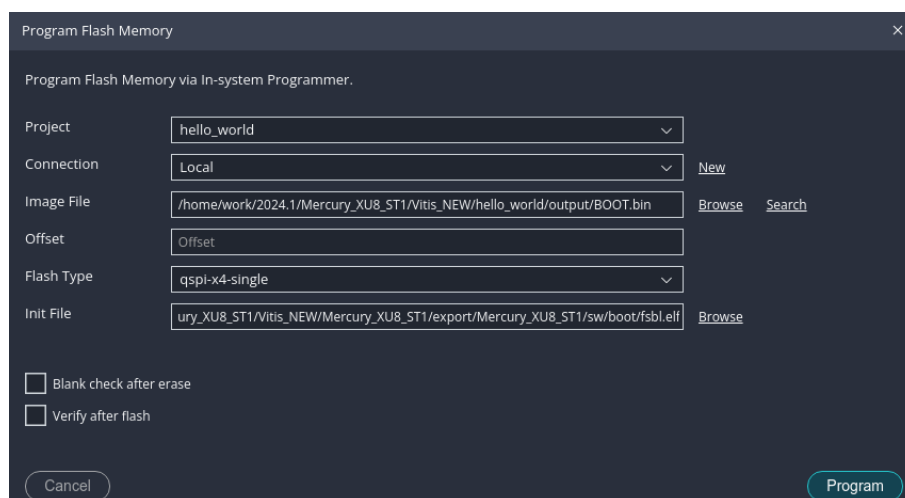

Figure 4: Example Dialog Vitis Program Flash Memory (QSPI)
2. Select **Vitis > Program Flash**. A dialog as the one shown in Figure 4 appears.